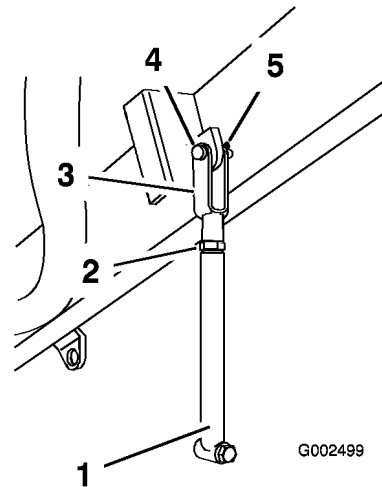

Figure 14
5. Install the prop rod assembly on the inside of the rear, lefthand side of the tank skid frame at the yoke using a clevis pin and cotter pin (Figure 14).